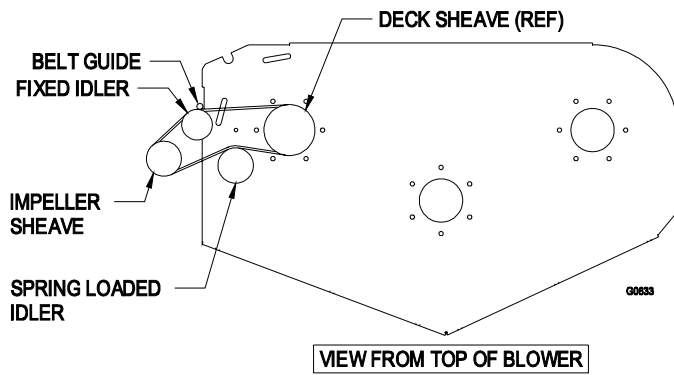

FIGURE 6
- 2) Remove the belt guide on the blower (See Figure 6)